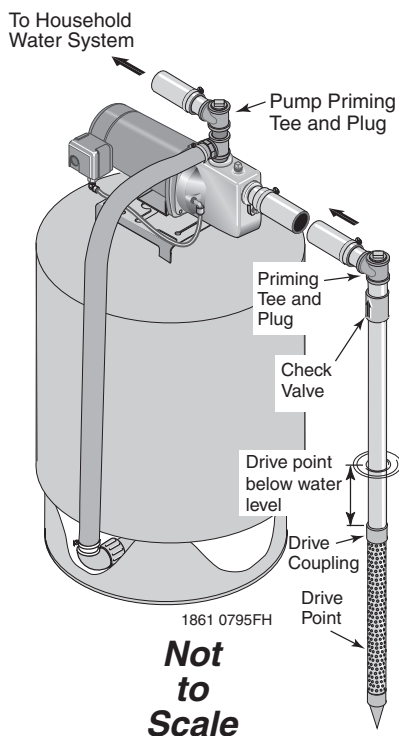

Figure 1: Driven Point Installation
## WELL POINT (DRIVEN POINT) INSTALLATION (FIGURE 1)
- Step 3. Use the fewest possible fittings (especially elbows) when connecting the pipe from the well point to the pump suction port. The suction pipe should be at least as large as the suction port on the pump (include a check valve if your pump is not equipped with one – see Figure 1). Support the pipe so that there are no dips or sags in the pipe, so it doesn’t strain the pump body, and so that it slopes slightly upward from the well to the pump (high spots can cause air pockets which can air lock the pump). Seal the suction pipe joints with teflon tape or a teflon based pipe joint compound. Joints must be air- and water-tight. *If the suction pipe can suck air, the pump cannot pull water from the well.* If one well point does not supply enough water, consider connecting two or three well points to one suction pipe.